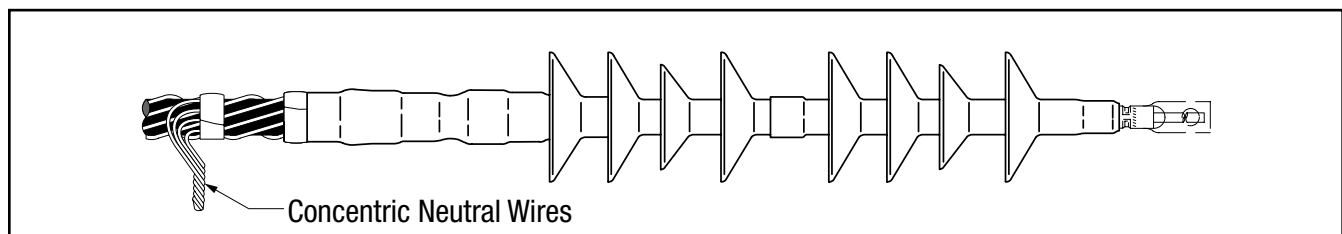

Figure 11
- 9.2 Collect all concentric neutral wires together (Figure 11) and connect to system ground according to standard practice.